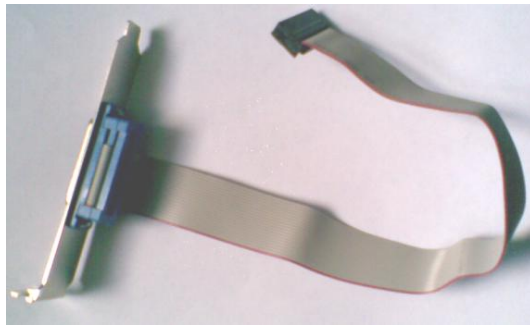
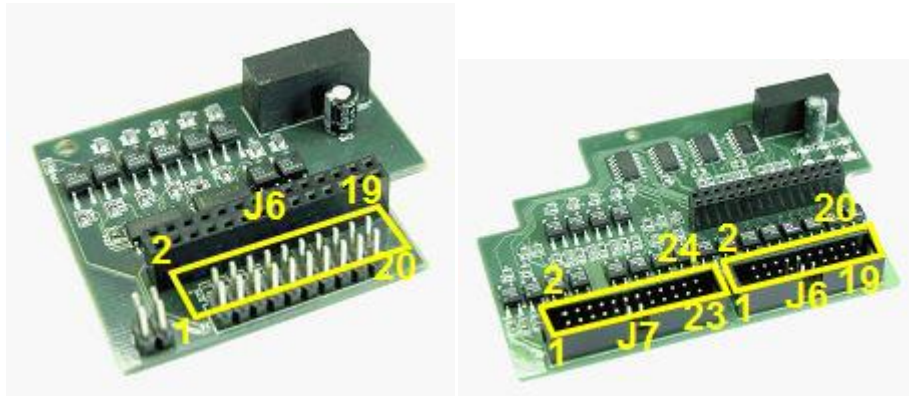

Figure 2.4-5 DI/DO interface cable
Figure 2.4-6 Connectors on the DI/DO card for the interface cable connection (is exemplified in 4/4 and 16/4 DI/DO cards)
4. Connect the interface cable included in the distribution kit of the DI/DO card, to the DI/DO card with the help of special connector (Figure 2.4-5, Figure 2.4-6, Figure 2.4-7, Figure 2.4-8)
Note. For interface cable connection the 4/4 DI/DO card has J6 connector, 16/4 DI/DO card has J6 and J7 connectors (Figure 2.4-6, Figure 2.4-7).
Attention! The first wire of the interface cable (marked red) should match the first pin of corresponding connector of the DI/DO card (Figure 2.4-6, Figure 2.4-7, Figure 2.4-8).